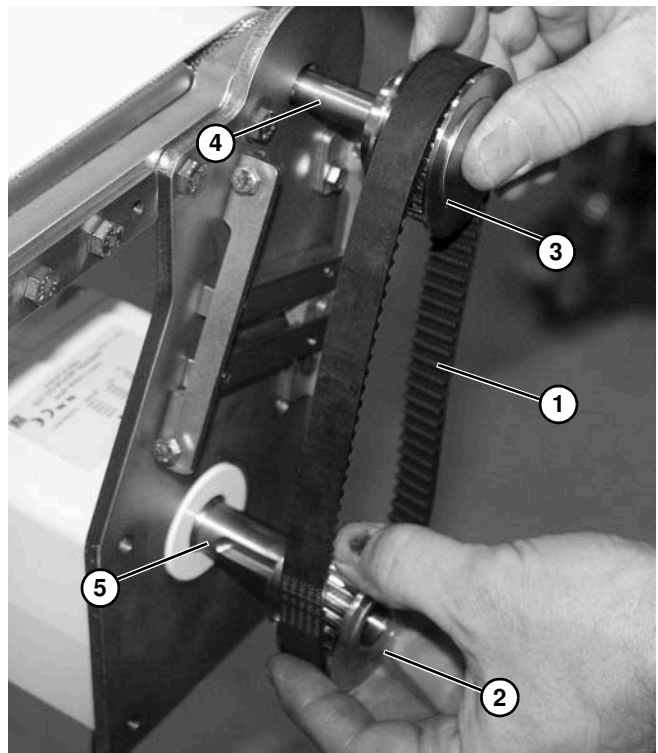

Figure 50
Make sure sprocket keys are installed on conveyor input shaft (**Figure 50, item 4**) and gearmotor output shaft (**Figure 50, item 5**).
6. Install new timing belt (**Figure 50, item 1**) over drive sprocket (**Figure 50, item 2**) and driven sprocket (**Figure 50, item 3**). Install timing belt and sprockets on conveyor input shaft (**Figure 50, item 4**) and gearmotor output shaft (**Figure 50, item 5**). Do not tighten sprocket set screws.